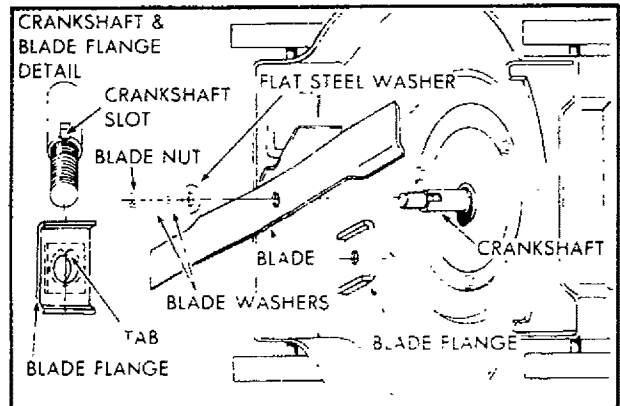

FIG. 21
NOTE: Always check the blade flange when changing the blade to be sure tab has not been damaged (See Fig. 21).
5. Put the blade flange on the engine crankshaft with the tab in the slot of the crankshaft (See Fig. 21).
6. Put the blade on the crankshaft as shown in (Fig. 21). Be sure the word "TOP" (stamped in the blade) is toward the engine.
7. Install the flat washer, two (2) formed washers and blade nut as removed above